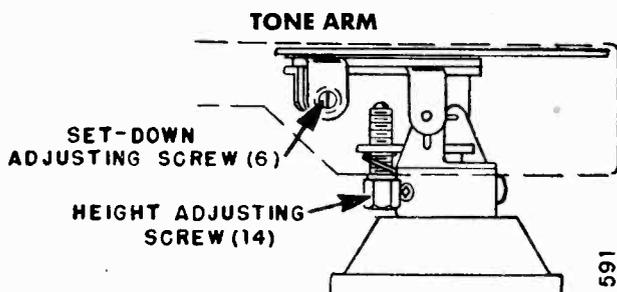

Figure 5. Set-Down and Height Adjustments.
Adjustment of the set-down point, is made by adjusting the set-down adjusting screw (6). See Figure 5. The tone arm will automatically set-down properly on 7-inch or 12-inch records if the set-down adjustment is made properly on a 10-inch record. The set-down adjusting screw is accessible through the hole in the right side of the tone arm. Turning this screw in moves the set-down point of the tone arm closer to the centerpost, and turning this screw out moves it away from the centerpost. Make this adjustment as follows:
1. Place the size and speed selector knob (26) in the "78-10" position.
This record changer is so designed that the tone arm will clear the bottom record of a stack to be played if the needle is $\frac{1}{4}$ " above the changer pan when the changer is not in change cycle and $1\frac{3}{8}$ " above the turntable during change cycle. See Figure 6. With proper tone arm height setting, the tone arm will lift high enough during change cycle to clear a complete stack of records of any type on the turntable. This stack may consist of as many records as specified on page 1. Make this adjustment by placing the size and speed selector knob (26) in the "78-10" position, check the distance between the needle and the changer pan with the changer out of change cycle. If the needle is more than $\frac{1}{4}$ " above the pan, turn the lift adjustment screw (14, Figure 5) counterclockwise; if less, turn clockwise.